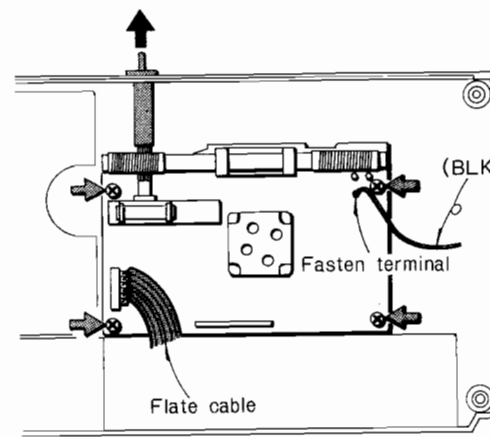

Fig. 4
- 1) Disconnect the flat cable and fasten-terminals (Black). (See Figure 4)
- 2) Remove the 4 screws and the single knob. (See Figure 4)